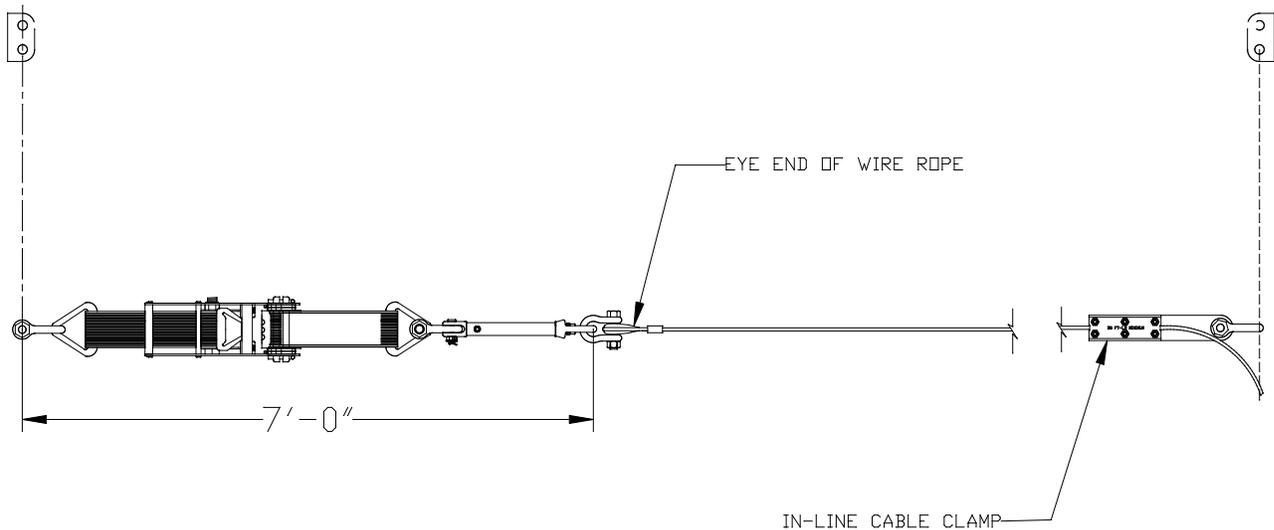

Fig. 13 Skyline™ Horizontal Lifeline Layout
16. Position the eye end of the wire rope so that it is about 7-ft. (see Figure 13) away from the location of one of the anchor lugs on an End Stanchion.